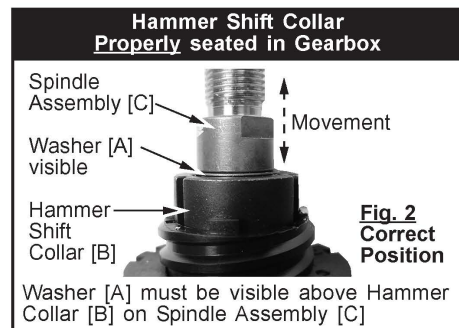

Fig. 2 Correct Position
- Washer [A] visible above hammer shift collar, (fig. 2).
Rotate shift collar left or right by hand until it drops into position shown in (fig. 2). The washer must be visible, and the .160 wide shift collar notch [1] must be in-line or slightly left of top 12 o'clock position, as viewed from the front of the gearbox.